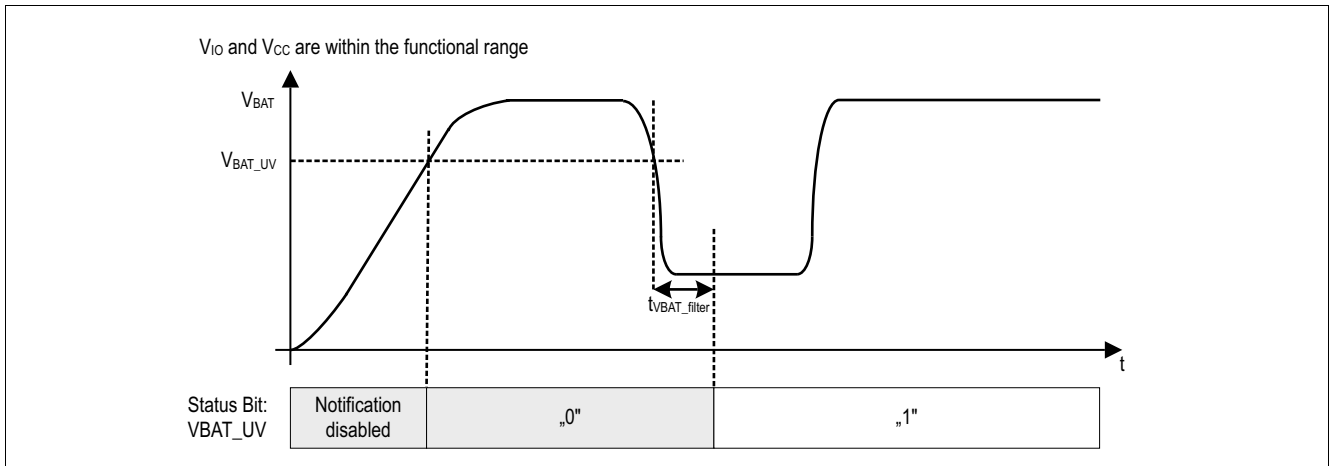

Figure 25 Undervoltage detection V_{BAT} during V_{BAT} supply stabilization period
- Set the bit **VBAT_UV** in the SPI register **TRANS_UV_STAT** to "1". After the completion of a Power on Reset or after a transition from Sleep Mode to Stand-by Mode the V_{BAT} supply stabilization period must be completed before an undervoltage notification can be recorded in the **VBAT_UV** bit. The undervoltage notification is only possible once the V_{BAT} supply has exceeded the threshold V_{BAT_UV} , that is $V_{BAT} > V_{BAT_UV}$. **Figure 25** shows this scenario.